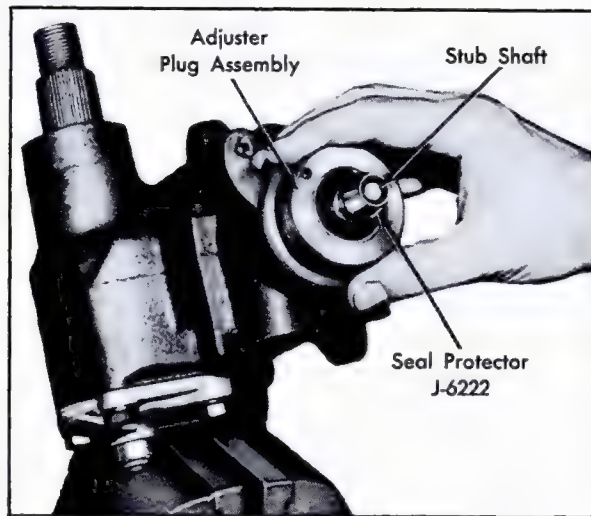

Fig. 9-33 Installing Adjuster Plug
7. Install adjuster plug assembly over end of stub shaft, Fig. 9-33, and tighten just enough to make certain that all parts are properly seated in gear housing. Remove Seal Protector, J-6222.